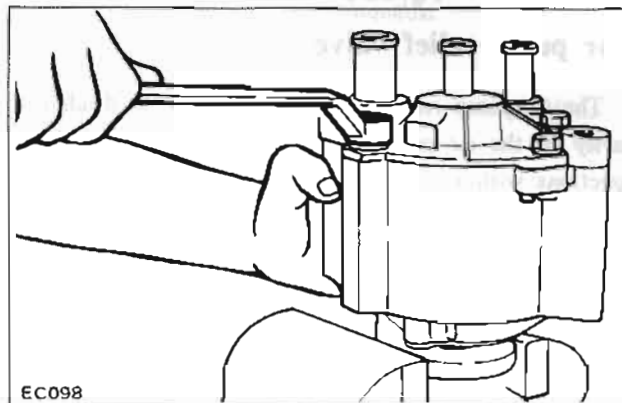

Fig. EC-9 Removing cover
2. Secure the air pump drive hub in a vise, as shown in Figure EC-9 and remove four end cover bolts.